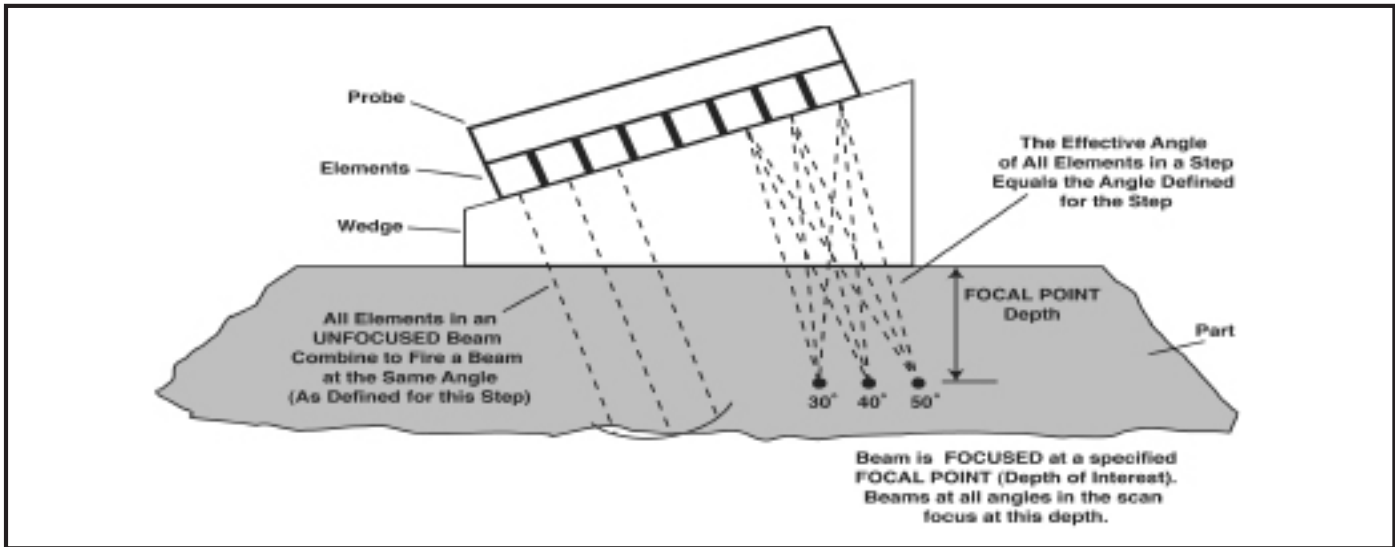

Figure 14: Sector Focal Point
**FOCAL POINT** – Depth into the part at which the phased array focuses. This depth represents an area of interest. It can be set to UNFOCUSED (by holding  for approximately three seconds) for typical phased-array applications (Figure 14).